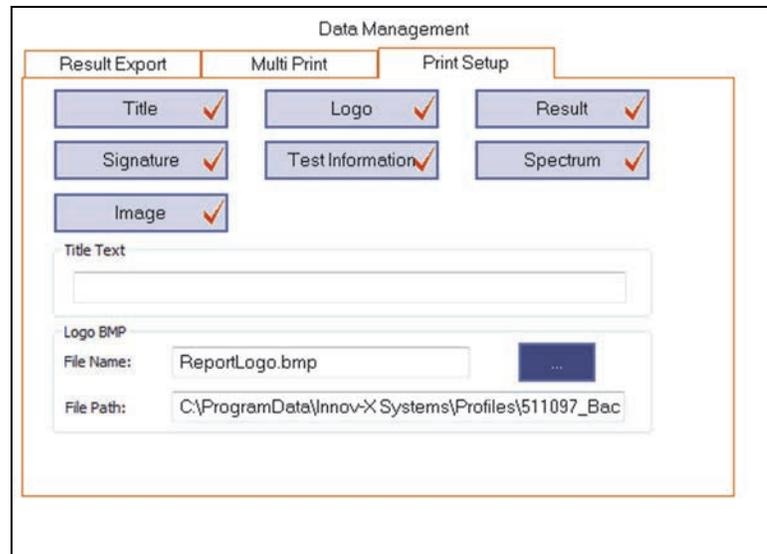

Figure 1-35 The Print Setup tab
1. Click the **Print Setup** tab (see Figure 1-35 on page 29).